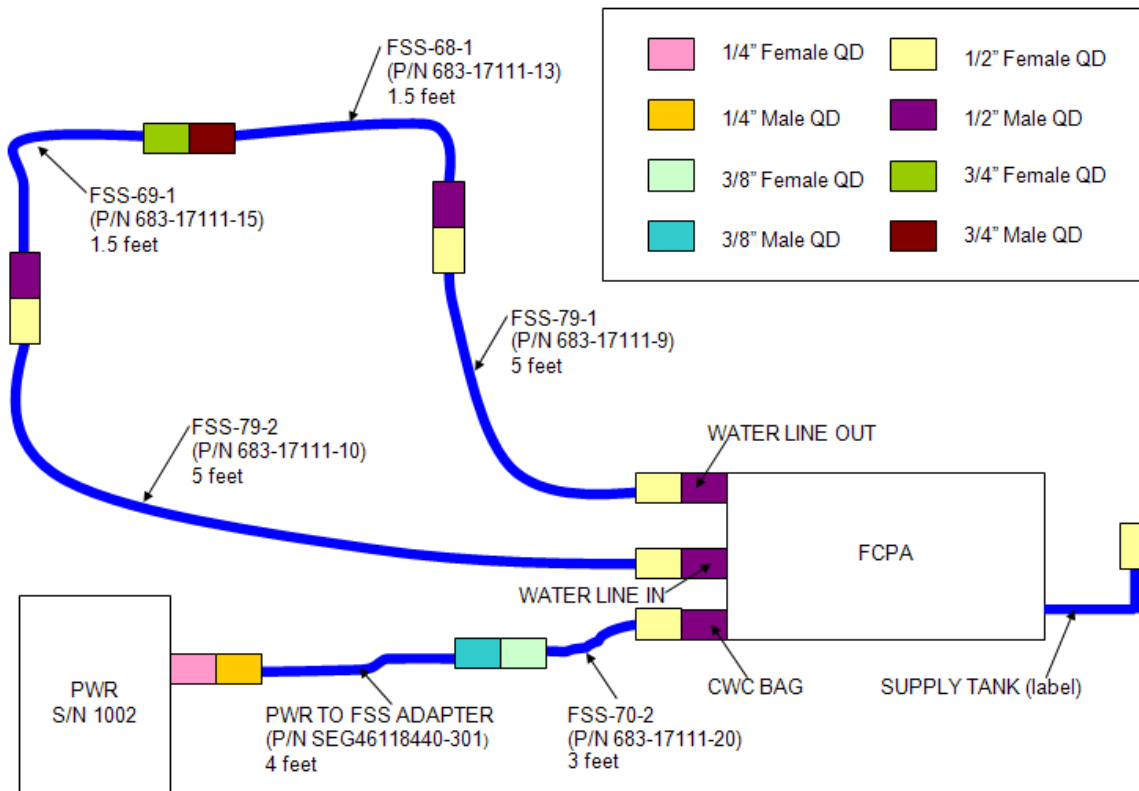

Figure 13.- FSS and FSS Jumper Drain and Purge Configuration.
Refer to Figure 13 for step 21.
- 21.4 √FSS jumpers configured per Figure 13